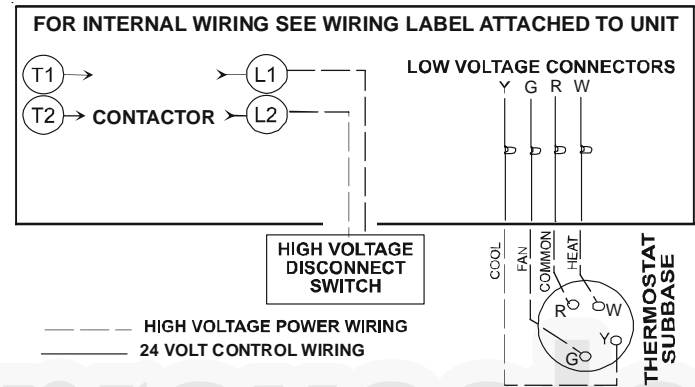

FIGURE 6
**High Voltage Wiring: (See Figure 6)**
**Low Voltage Wiring: (See Figure 6)**